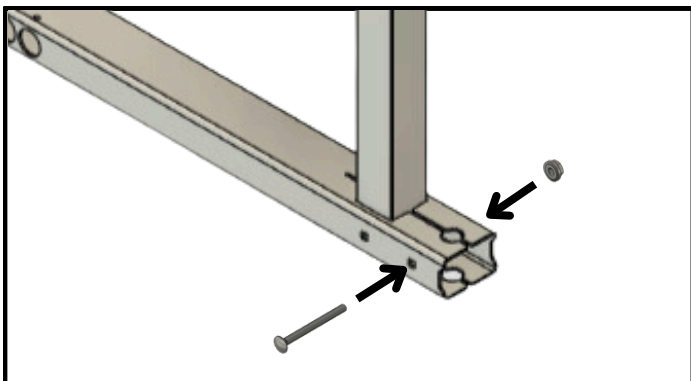

Figure 3
If you are NOT installing the IR-15/IR-30/IR-35A with Stakes or IR AnchorSpikes, the remaining (2) M8-1.25 x 90mm Carriage Bolts can be used to clamp the ends of the Base Tube (See Figure 3).